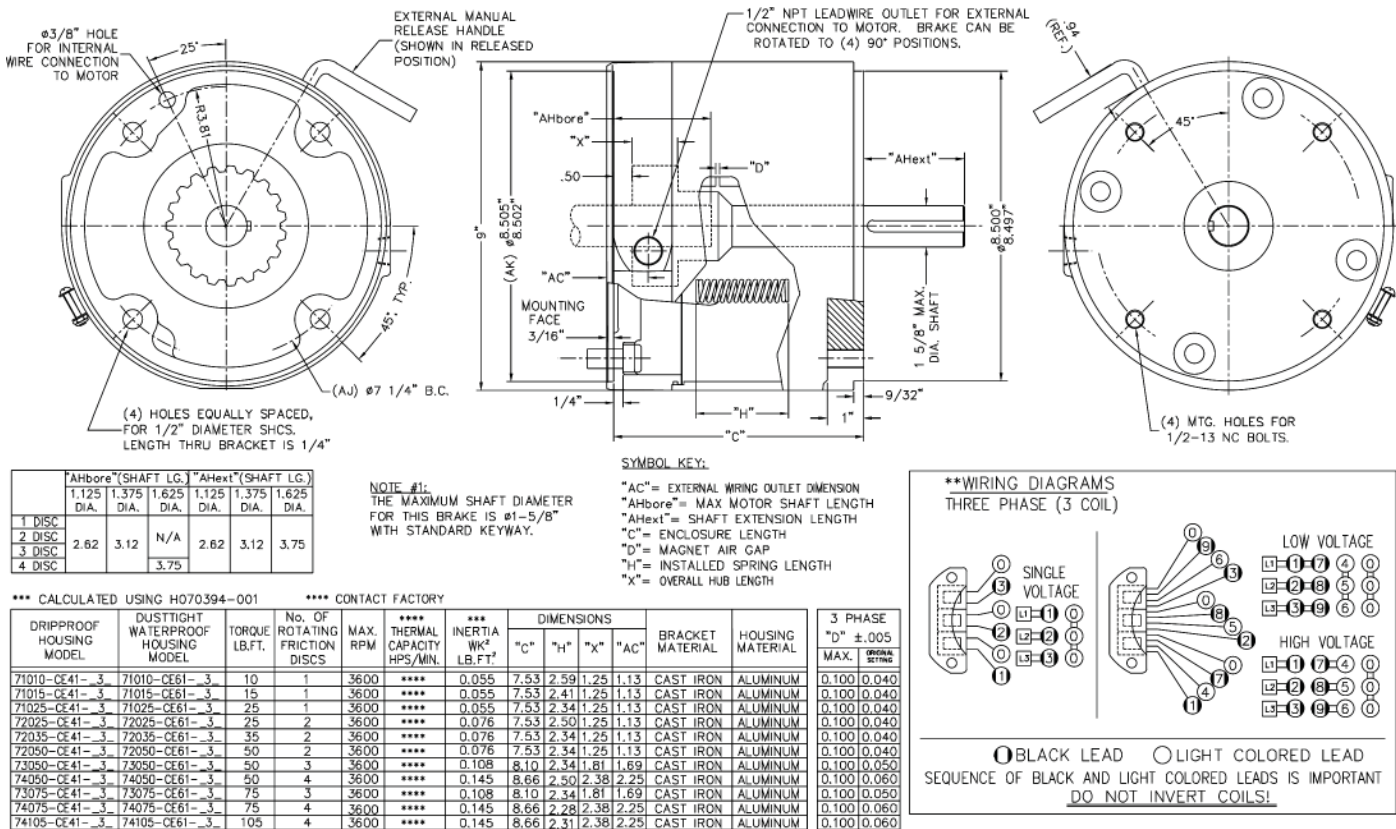

Figure 1 - Brake Outline
(See Figures 1, & 2, Table 1)
4. Insert and install the 1/2 SHCS through the housing windows at four spots and secure and tighten each one to motor "C" face using an extended length ball end hex key brake. See Figure 1 to help in determining proper bolt length. Final bolt thread pitch, length and mounting torque is dependent on the material and depth of the threaded holes in the mounting face.
7. Connect coil leads per appropriate wiring diagram in Figure 1.
Refer to Fig. 1, 2 &3.
(Refer to Fig. 1 & 2)
6. **Re-assembly of electromagnet assembly (15)** Refer to Fig. 1 & 2. Reinstall pressure plate (32) by rotating clockwise to engage both torque spring bolts (28) into slots in brake bracket (1). Replace all nuts, washers, and springs (42, 43, & 44). Nut (44) on the pivot post (17) should be adjusted, so the distance from the bottom of the pressure plate (32) to the top of the brake bracket (1) is 7/16". Reinstall magnet assembly (50A) and install nuts and washers (59, 60, & 61). Nut (61) should be torqued to 20 lb-ft.
8. Reset spring height according to brake model number in Fig.1 from the top of the spring (42) to the bottom of the pressure plate (32).
4. Replace with new magnet assembly (50A) and install nuts and washers (59, 60, & 61). Nut (61) should be torqued to 20 lb-ft.
5. Place coil lead wires around mounting bracket (1) to the same side as the wire outlet position or internal wire outlet. Connect coil lead wires per Fig. 1.